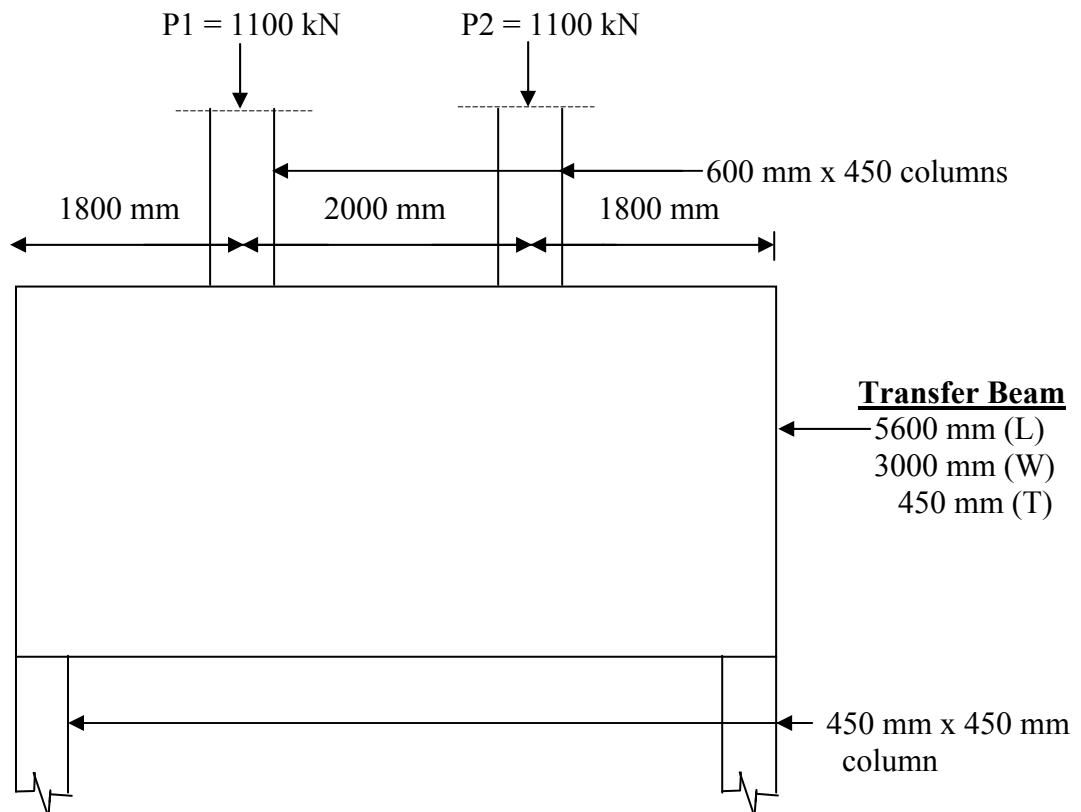

Figure 4 : Deep beam arrangement
- b) A simply supported reinforced concrete deep beam carrying equal point loads as shown in Figure 4. Design and provide sectional detailing of the deep beam using strut and tie method. The characteristic strength of concrete and reinforcement is 35 N/mm^2 and 460 N/mm^2 , respectively. Relevant code provisions are given in Appendix A.